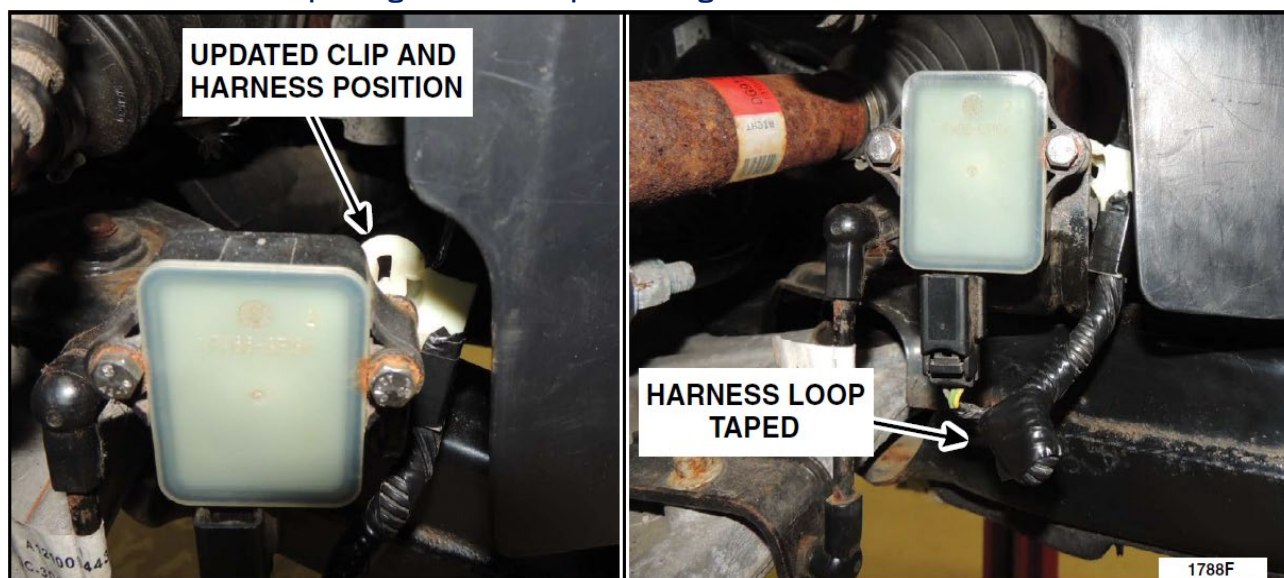

FIGURE 6
11. Attach the ride height sensor's wire harness clip to the front bracket bolt (long bolt) and secure the harness loop using electrical tape. See Figure 6.